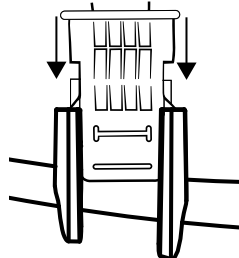

Figure 6
3. Insert keys into respective key slots. Push firmly until keys snap into place (Figure 6).